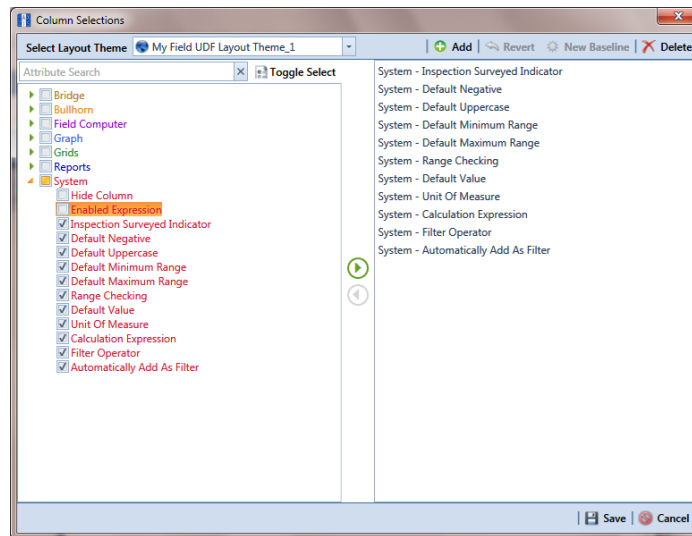

Figure 3-28. Column Selections
- 8 Choose which fields to include in the layout theme. Select a field in the left pane and then click the top arrow button  to move the field to the right pane. Repeat this step as needed (Figure 3-28, page 68).
- a Click  **Customize** to open the *Column Selections* dialog box (Figure 3-28, page 68).